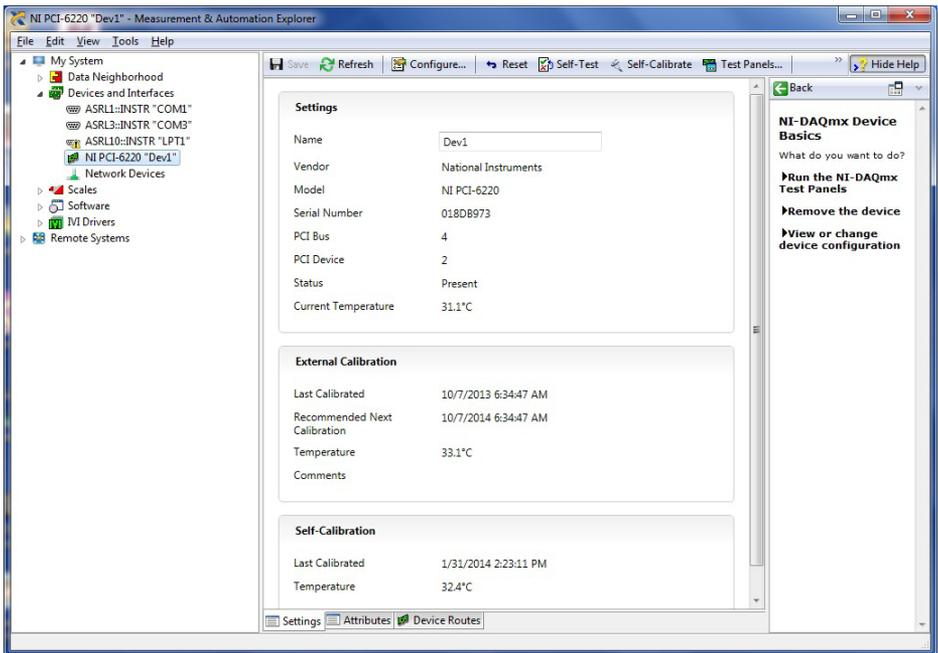

Fig. 38 — In this NI-Max window, the PCI-6220 card is highlighted in the left hand column.
6. Open the NI-Max program. In the explorer region on the left, navigate to My System>>Devices and Interfaces>>NI PCI-6220 and click on it to open the settings (*Fig. 38*).